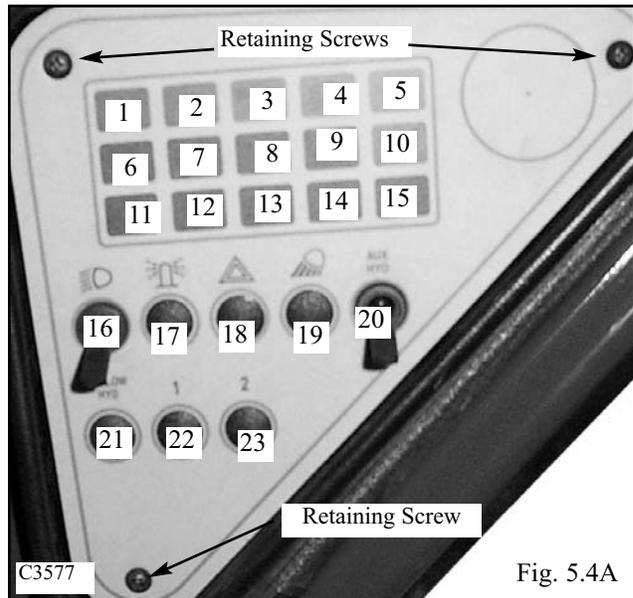

Fig. 5.4A
Legend for Fig. 5.4A
- 1 Remove the 3 screws retaining the electrical panel to the dash pod. (Fig. 5.4A)